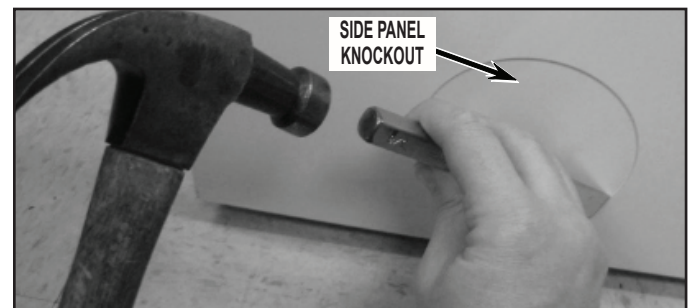

FIGURE 28
2. To remove the most rearward left side knockout, use either a 1/8" drill bit or a cold chisel and hammer. Remove the six(6) knockout retaining tabs around the edge. See *Figure 28*.